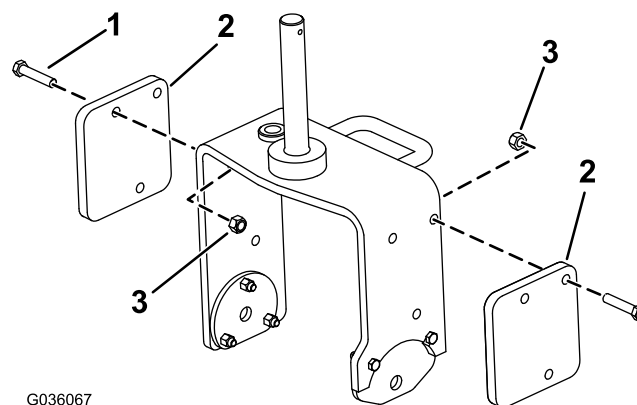

Figure 4
2. Attach a weight to each side of the castor fork using 3 bolts and 3 locknuts for each side (Figure 4).